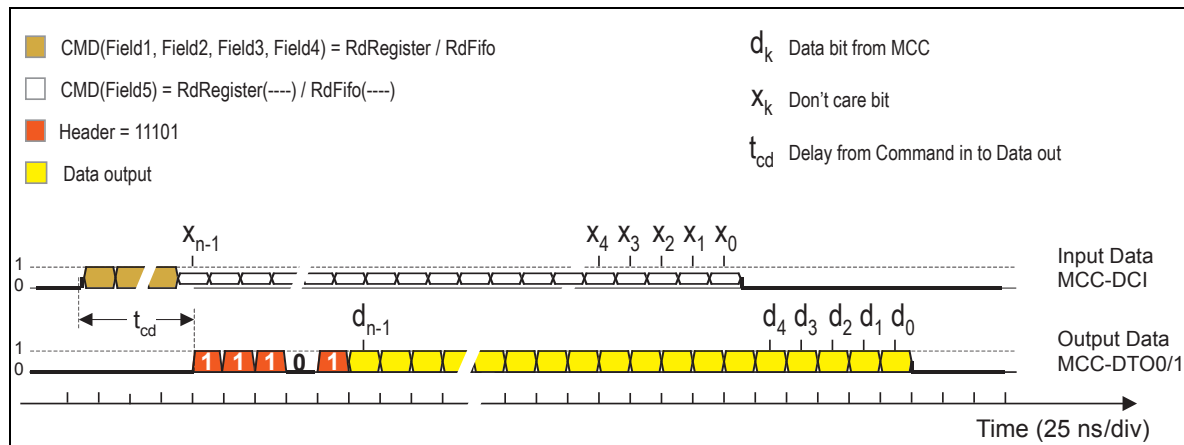

Figure 6-1 MCC to ROD data format in case of RdRegister and RdFifo commands.
- Fig. 6-1** *p. 2* MCC to ROD data format in case of RdRegister and RdFifo commands.
Figure 6-1 shows an example of a RdRegister command. As can be seen in response to a RdRegister (RdFifo) command, after a certain delay the *MCC* presents on its output the 5 bit header (11101) immediately followed by the 16 (26) bits of the contents of the read register (fifo location).